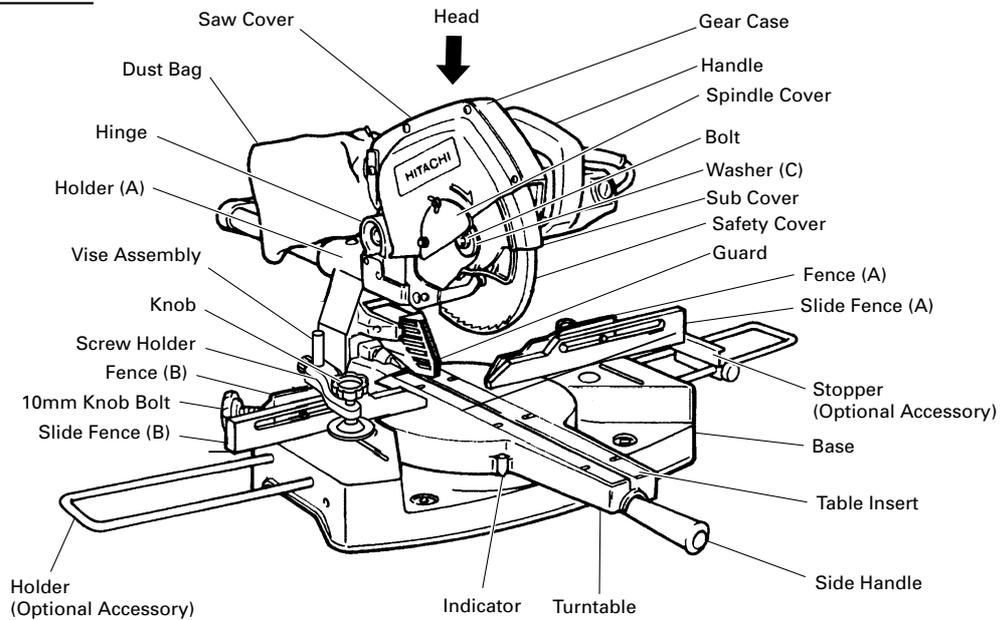
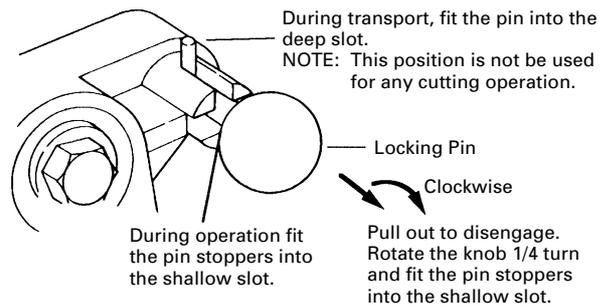

Fig. 1
Fig. 6-b
- ① Extension Holder and Stopper (Fig. 1) (Code No. 998866)
- ② Guard Assembly (A) (Adjustable) (Code No. 998984)
- ③ Saw blade 8-1/2" (216mm) TCT Saw blade (Total teeth: 36) (Code No. 998860)
- ④ Saw blade 8-1/2" (216mm) TCT Saw blade (Total teeth:60) (Code No.998862)
- ⑤ Saw blade 8-1/2" (216mm) TCT Saw Blade for aluminum (Total teeth: 60) (Code No.998864)
When the power tool is prepared for shipping, its main parts are secured by a locking pin. Move the handle (see Fig. 1) slightly so that the locking pin can be disengaged and adjusted as indicated in Fig. 6-b.
**NOTE: Lowering the handle (see Fig. 1) slightly will enable you to disengage the locking pin more easily and safely.**
Attach the dust bag, holder, stopper and vise assembly, slide fence (A) and slide fence (B) as indicated in Fig. 1.